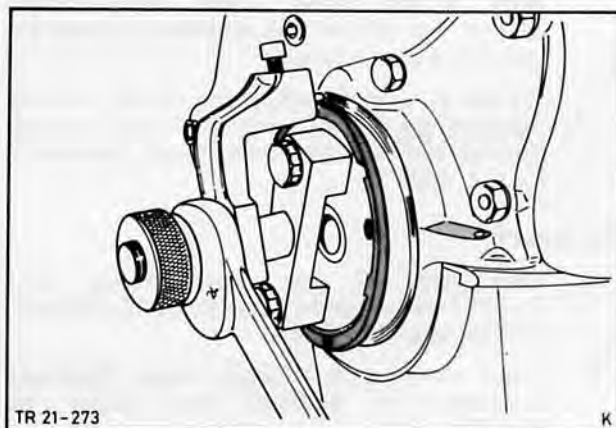

Fig. 212. Cut out oil seal carrier, using Special Tool 21-047
2. Rotate cutter clockwise, using open-ended spanner, and tighten knurled nut until oil seal abutment surface is cut off, Fig. 212.